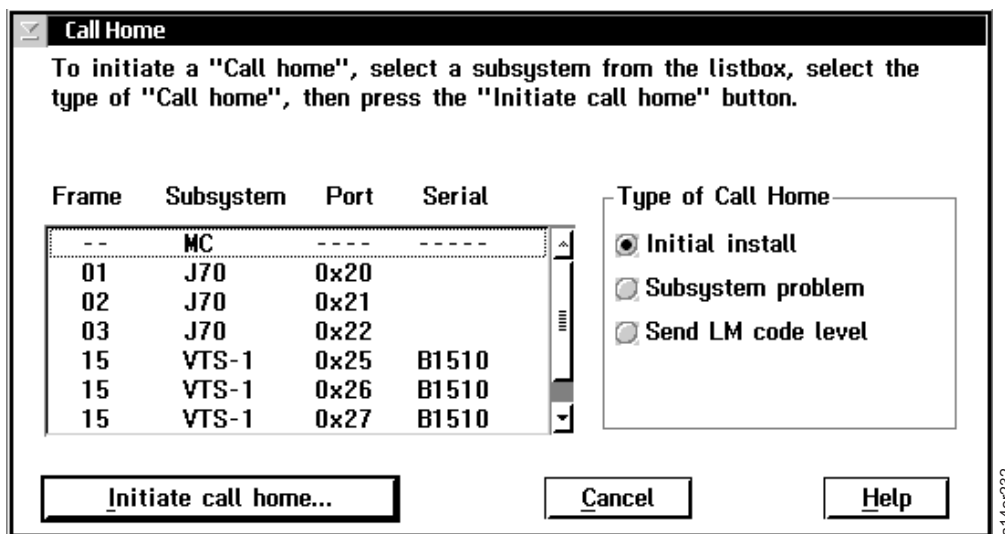

Figure 2-128. Call Home Dialog Box
1. To test call home through the System Console, use the 3494 ATL or the 3953 menu commands **Commands --> Call Home...** to view the Call Home Dialog box (see Figure 2-128 on page 2-92).